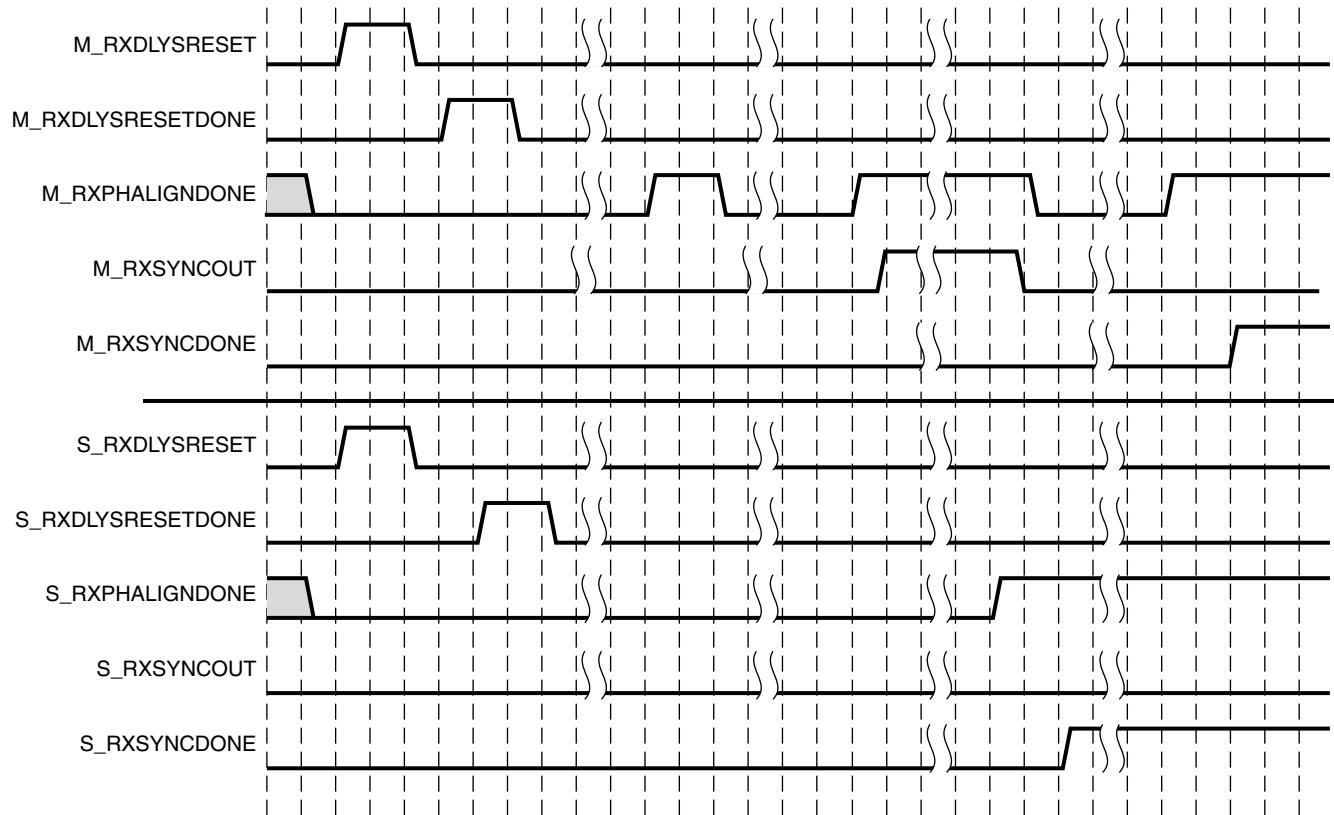

Figure 4-42: RX Buffer Bypass Example—Multi-Lane Auto Mode
Figure 4-42 shows the required steps to perform auto RX phase and delay alignment.
Notes relevant to Figure 4-42:
1. The sequence of events shown in Figure 4-42 is not drawn to scale.